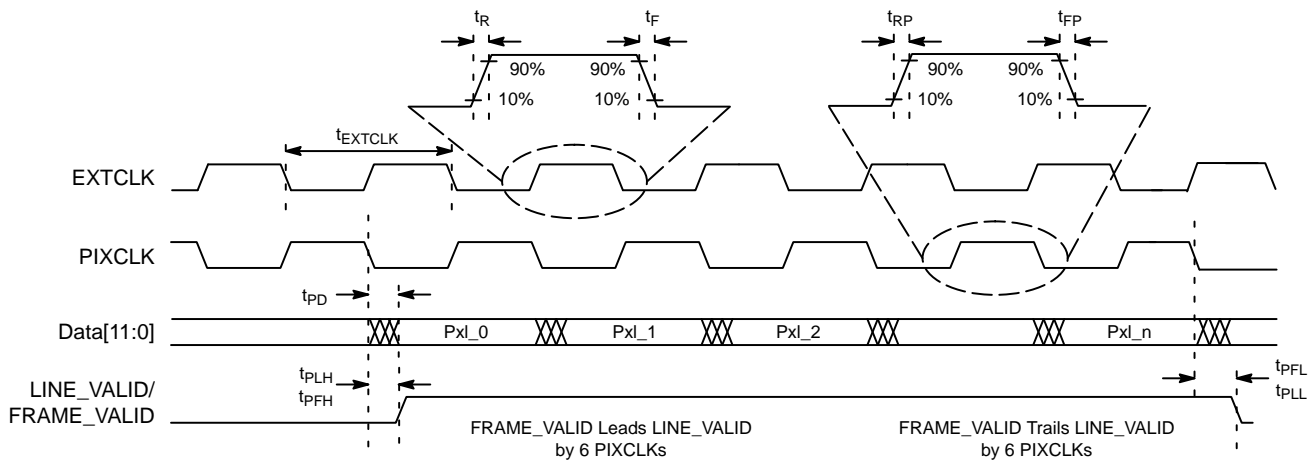

Figure 15. I/O Timing Diagram
See Figure 15 below and Table 8 for I/O timing (AC) characteristics.